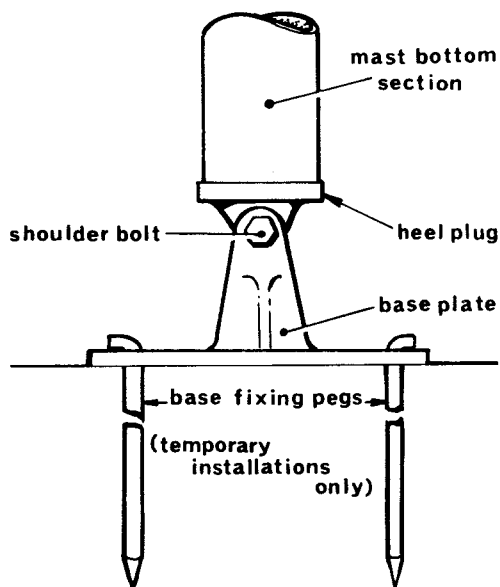

Fig 14.22 Base plate and heel plug assembly
- **Heel plug assembly.** This assembly (Fig 14.22) plugs into the swaged end of the lowest mast section and is the means by which it is assembled to the mast base assembly.
- **Mast base assembly.** This is a light alloy square plate with integrally cast twin lugs drilled to accept the shoulder bolt when the heel plug is attached. The plate is drilled at each corner to facilitate bolting to a prepared ground anchorage or securing to the ground by the use of tent pins (Fig 14.22).
Bolt the mast base assembly to the concrete base, after coating the contact face with 'Detel' EP paint or an approved equivalent. For temporary installations, secure the mast base assembly with four tent pins (Fig 14.22). The subsequent erection procedure is given in the following sub-paragraphs and applies to both temporary and permanent installations. An erecting party of a supervisor and six men is required.